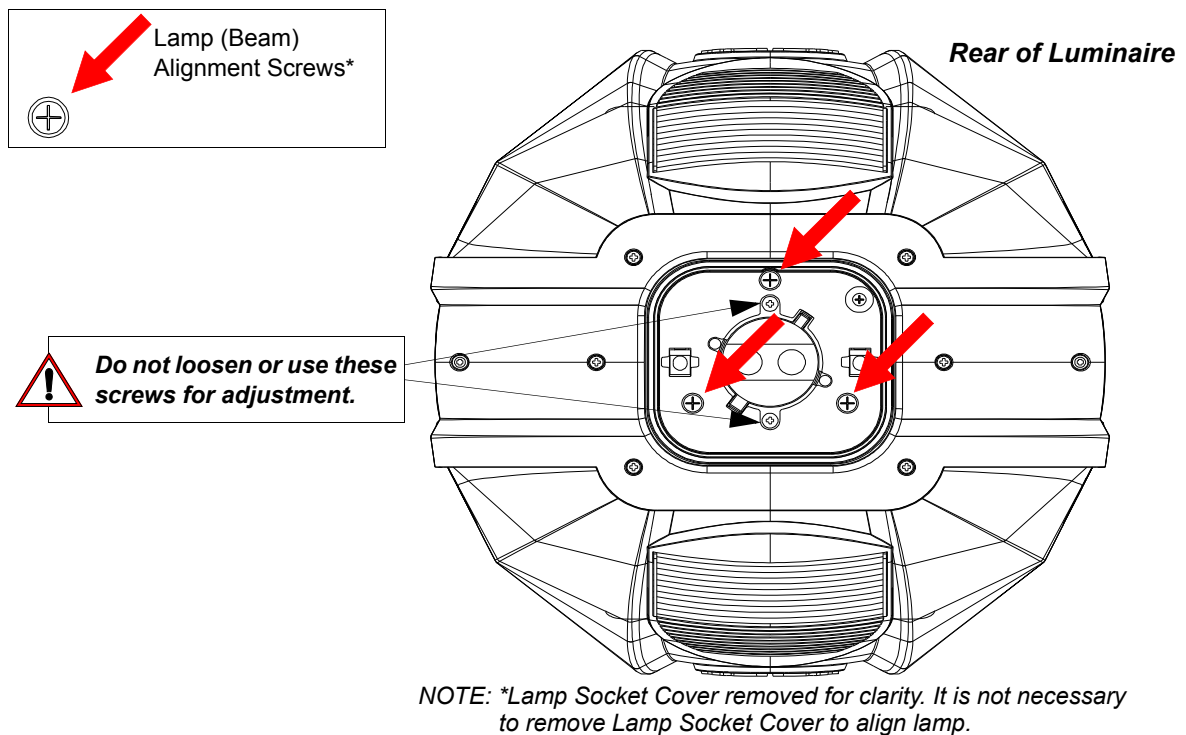

Figure 2-5: Lamp Alignment Screws
- Step 4. Using three alignment screws (as indicated with Red Arrows in Figure 2-5) adjust hot spot to center of beam.